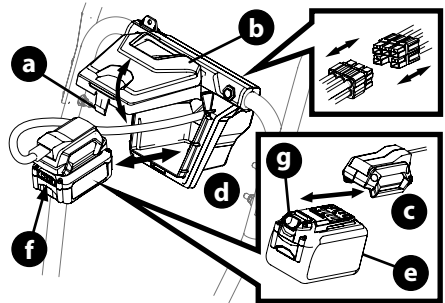

Figure 61
1. Installing the battery pack (Figure 61):
**NOTE:** If necessary the battery adapter can be disconnected from the battery start wiring harness (Insert, Figure 61).
2. Removing the battery pack (Figure 61):